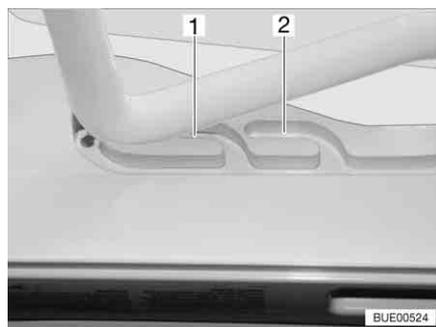
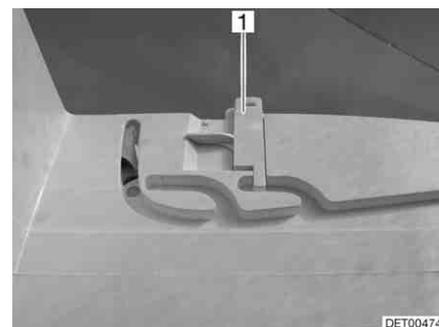

Fig. 67 Heki skylight in ventilation position
Fig. 68 Ventilation position locking mechanism
The Heki skylight can be put in two ventilation positions: Bad weather position (Fig. 67,1) and central position (Fig. 67,2). Depending on the model, the skylight can be locked in the central position with the latch (Fig. 68,1).
- Push the bar slightly upwards and into the selected guide (Fig. 67,1 or 2) and lock if necessary.